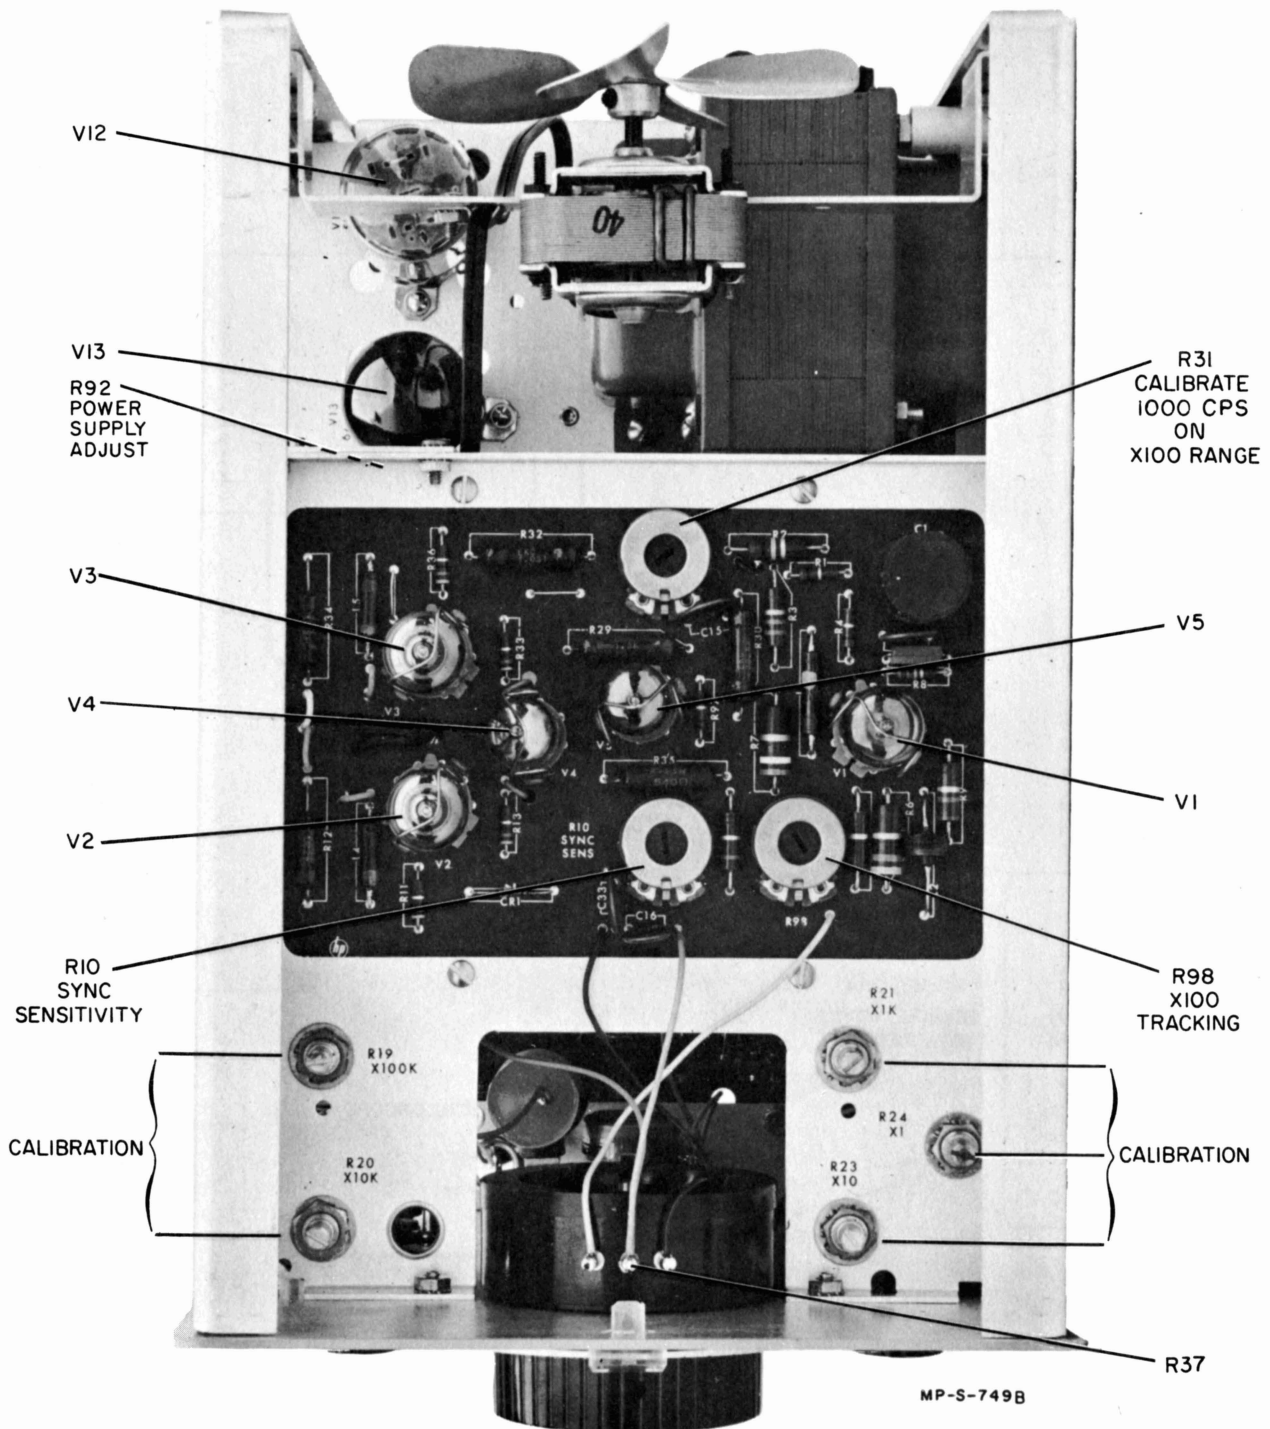

Figure 4-2. Model 211A Top View
4-17. To measure power supply voltage, connect a dc voltmeter with $\pm 1\%$ calibrated accuracy between the end terminal of R10 (shown in figure 4-2) and the chassis. The voltage should be between -192 and -200 volts. This voltage must be set to the point where regulation is obtained under high (115 volts $+10\%$) and low (115 volts -10%) line conditions. A value of -195 volts is average for most instruments.
c. Adjust R31, shown in figure 4-2, to obtain 1000 cps from the Model 211A on the counter, or a zero beat Lissajous pattern on the scope.